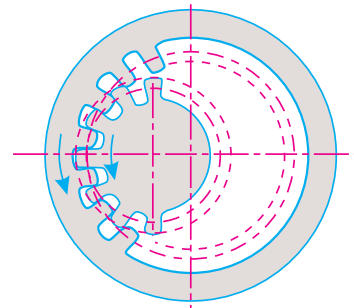

Fig. 34.4. Internal gearing.
2. **Internal gears.** Sometimes, the gear of the two shafts mesh *internally* with each other as shown in Fig. 34.4. Such a type of gear is called *internal gearing*. The larger of these two wheels is called annula wheel and the smaller one is called pinion. In an internal gearing, the motion of the two wheels is always like as shown in Fig. 34.4.